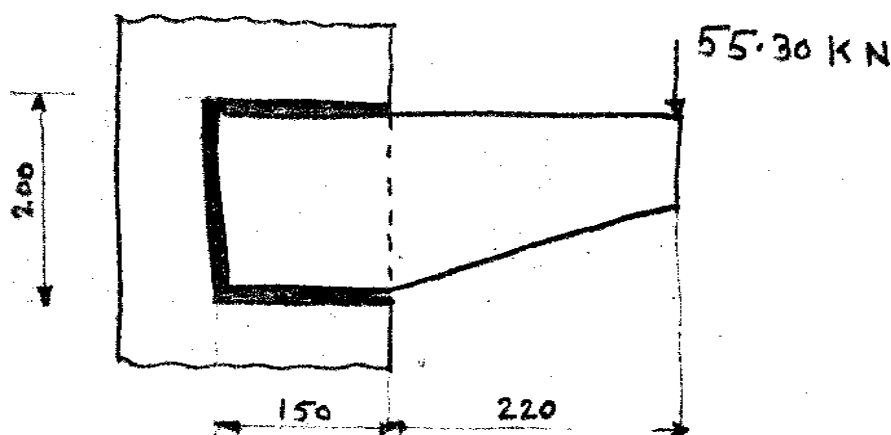

Fig. 3
- b) A welded joint as shown in figure. 3 is subjected to an eccentric load 55.30 kN. A bracket is welded to the side of column. Calculate the size of weld when maximum shear stress is 80 MN/m^2 .